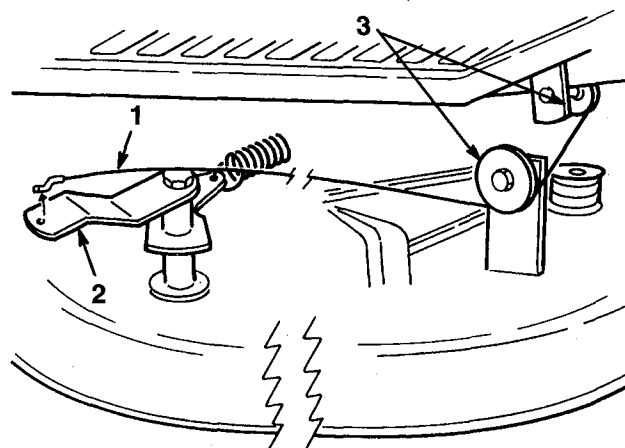

Figure 40
6. Unhook the blade control (PTO) cable from the roller guides and idler arm on the right side of the mower (Fig. 40). Move the cable out of the way so it cannot get caught on the mower.